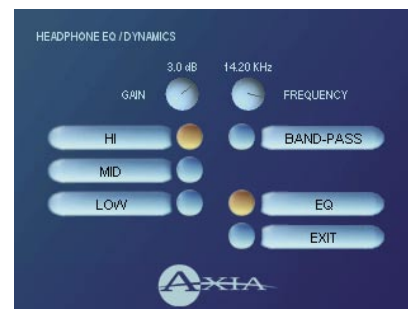

Figure 4-19: Headphone EQ screen.
- **HP EQ** allows three-band parametric equalization to be applied to the board operator's headphones to suit personal preference. Pressing the Soft Key labeled `HP EQ` changes the right-hand screen to show the Headphone EQ screen (Figure 4-19).